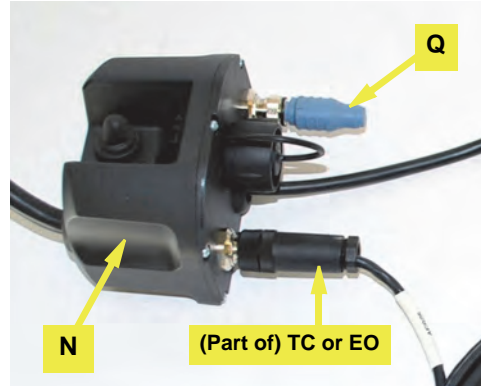

Figure 8d: CAN harness and terminator connected to junction box
e. Connect the threaded 5-pin connector on the CAN bus harness **TC** (eDriveTC) or **EO** (eDriveX) to either of the threaded connectors on the junction box **N**. Connect the CAN bus terminator **Q** to the other threaded connector on the junction box (Figure 8d).